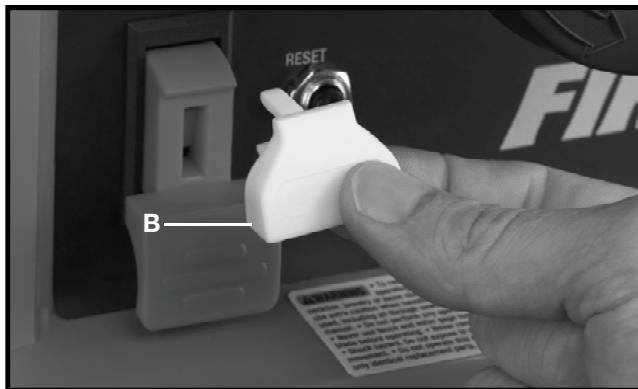

Fig. 35
**IMPORTANT:** When the tool is not in use, the switch should be locked in the “OFF” position to prevent unauthorized use. To lock the tool, grasp the switch toggle (B) and pull it out of the switch (Fig. 35). With the switch toggle (B) removed, the switch will not operate. However, should the switch toggle be removed while the saw is running, the machine can be turned “OFF,” but cannot be restarted without re-inserting the switch toggle (B).